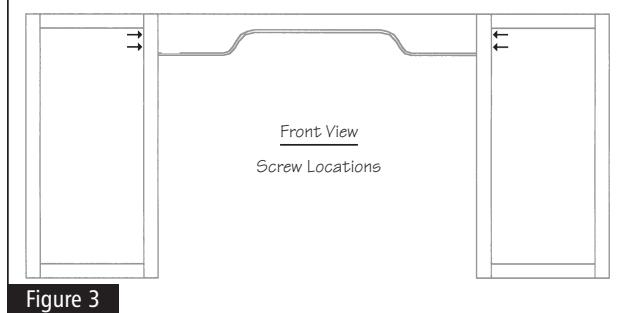

Figure 3
- 6 Secure with #8 x 2-1/2" flathead screws (two screws through each frame). See Figure 3.